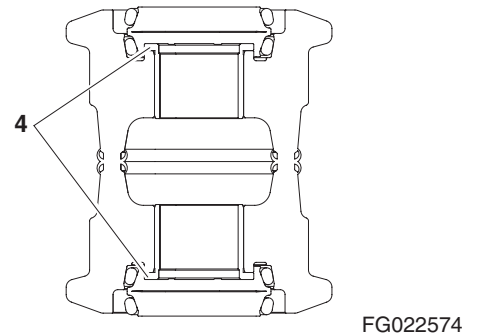

Figure 31
1. Degrease, clean and dry all parts before reassembly. Insert bushing (4, Figure 31) into roller.